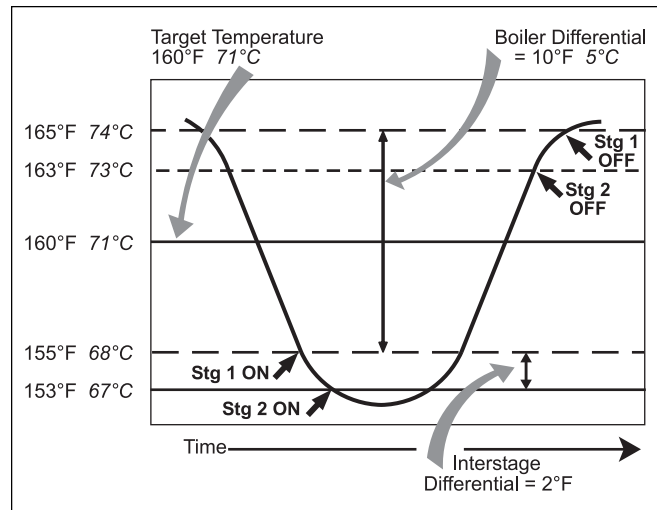

Figure 18. Temperature Control Interstage Differential Graph.
**DIFF** (Boiler Differential): This setting is divided above and below the target temperature. The water will be allowed to cool ½ this setting below the target temperature before first stage fires, and will heat to ½ this setting above the target temperature before staging the boiler down. See Section 6.4.1 and Figure 18 for more information.
Differential has an abbreviated name of DIFF. An on/off heat source must be operated with a differential in order to prevent short cycling. The differential is divided around the boiler target temperature (see Figure 18). The first stage contact will close when the water temperature at the operating sensor is one-half of the differential setting below the target temperature. It will open when the water temperature at the operating sensor is one-half of the differential setting above the target temperature. The remaining stages will operate sequentially, based on the staging mode selected.
**Proportional (P)** – Proportional staging, also known as step staging, is based on manually adjusted settings which determine when the next stage is required to turn on. These manual settings are based on temperature and time. The interstage differential sets the temperature drop at which the next stage turns on. However, in order for a stage to fire, the interstage delay on and minimum off times must first elapse.
**Interstage Differential (STG DIFF)** – The interstage differential is the temperature drop at which the next stage will turn on. Once a stage turns on, the next stage cannot turn on until the temperature drops the interstage differential below the temperature at which the previous stage turned on. The interstage differential is adjustable through the STG DIFF setting in the Adjust menu. See Figure 18.